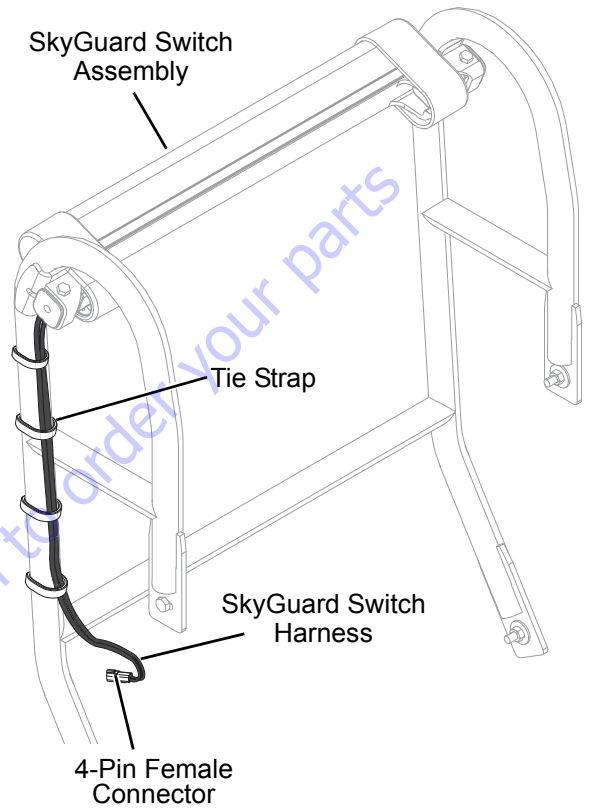

Figure 4-44.
9. Route the SkyGuard switch harness along SkyGuard support bracket (right side) and under the platform control box. Secure the harness using tie straps. See Figure 4-44.